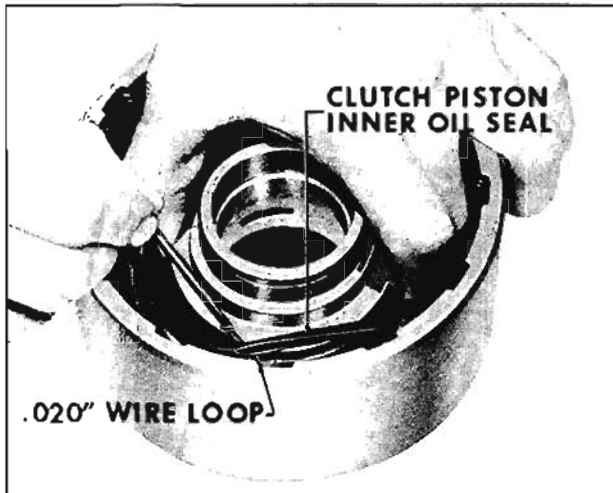

Fig. 6-361 Installing Inner Seal
3. Lubricate with transmission oil and install new forward clutch piston inner seal with seal lip pointing downward. (Fig. 6-361)